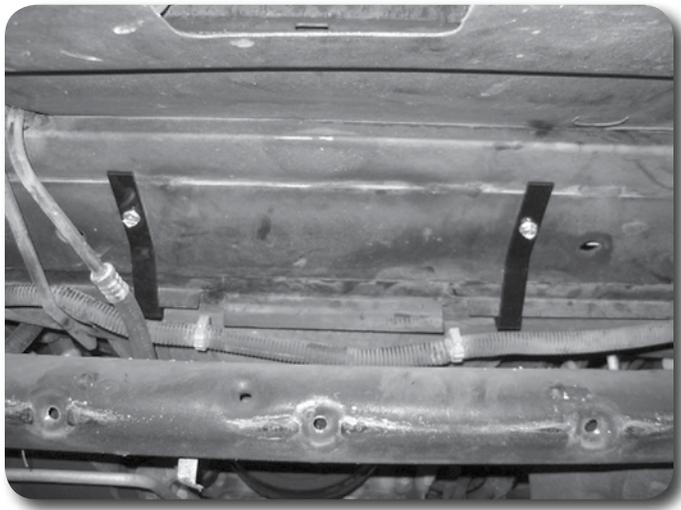

Figure 18
35. With the holes drilled, reposition the lower shroud brackets and fasten with the provided  $1/4$ " x  $3/4$ " self-tapping bolts. Tighten bolts to 10 ft-lbs. Figure 18